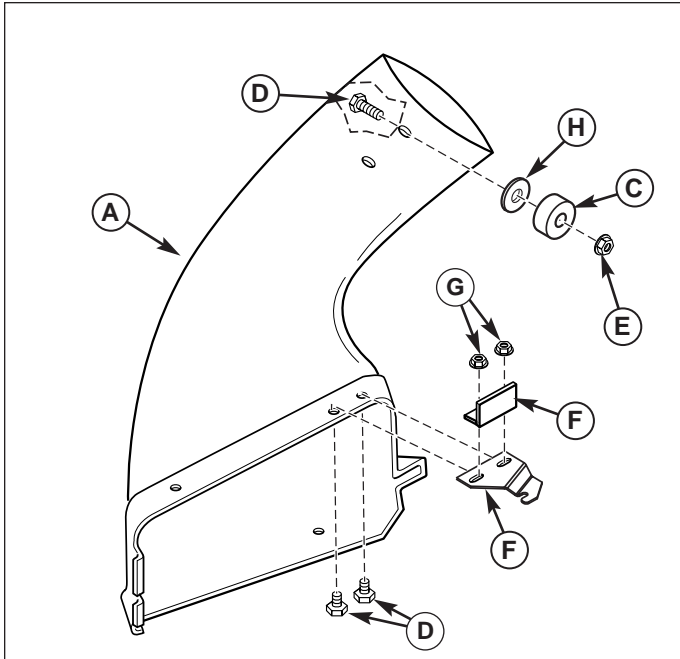

Figure 7. Install Pin and Bracket
1. Secure the puck (C, Figure 7) to lower chute (A) using 5/16-18 x 3/4 cap screw (D), 5/16 x 1/2 washer (H), and 5/16-18 locknut (E).
2. Install bracket (F) and deflector prop (G) to lower chute (A) using 5/16-18 x 3/4 cap screws (D) and 5/16-18 locknuts (E).